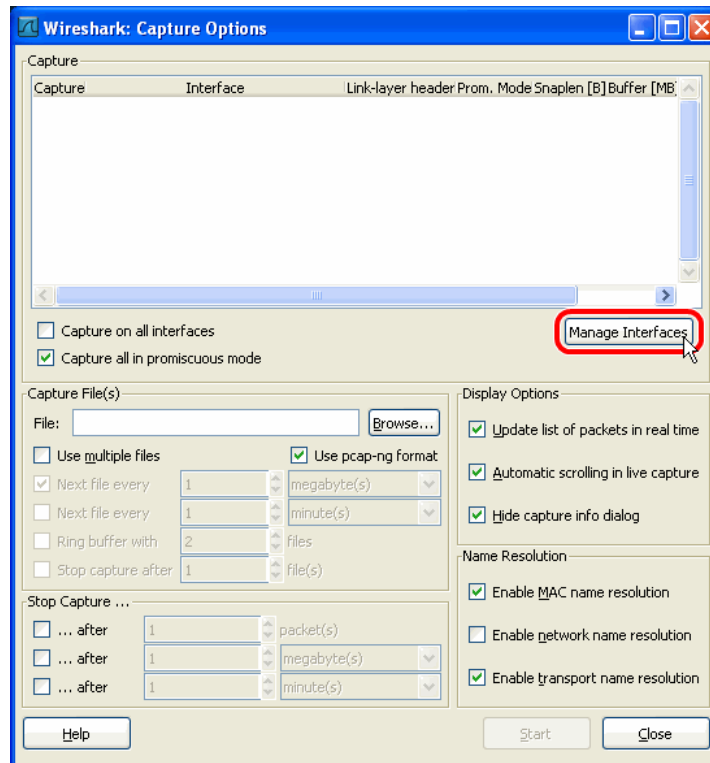

Figure 62: Wireshark Capture Options Dialog.
1. Open Wireshark and choose the menu **Capture** → **Options...** . This opens the **Capture Options** dialog as shown in Figure 62.